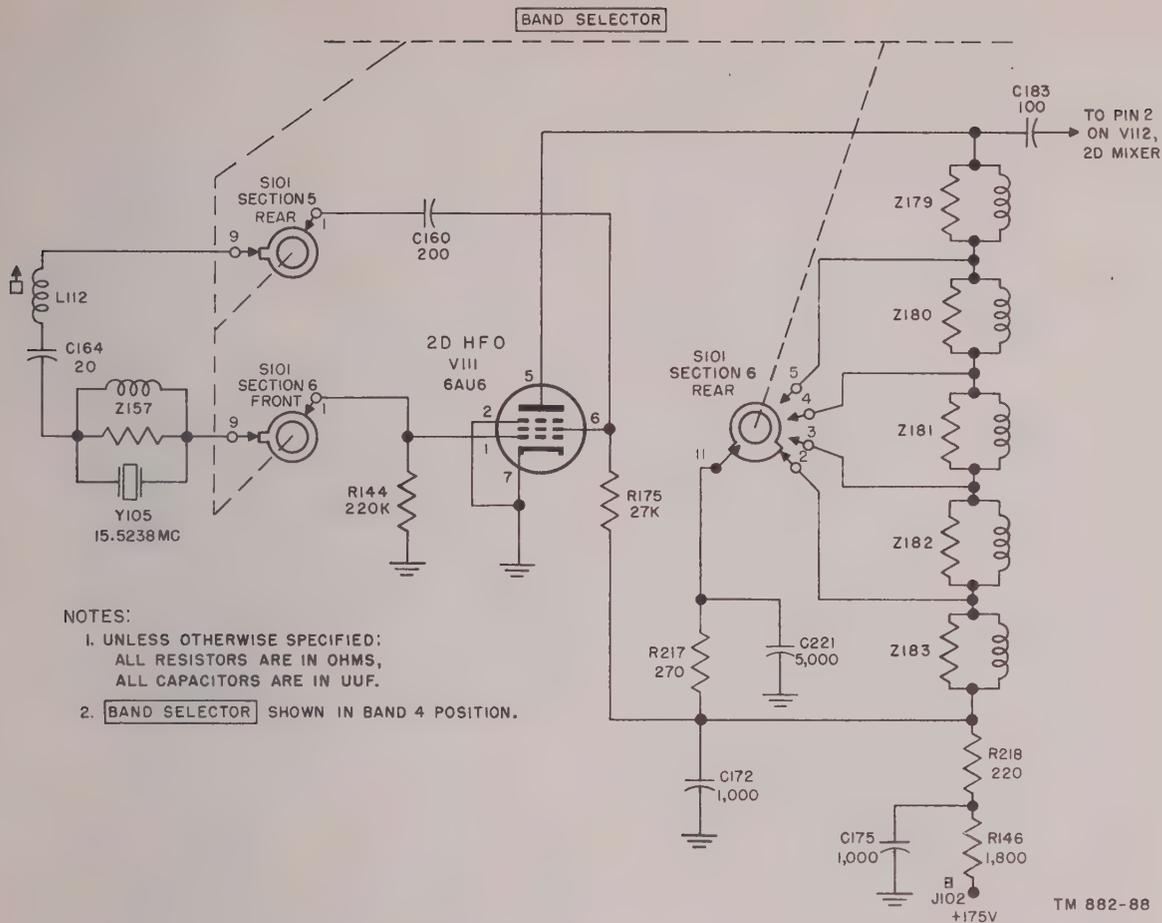

Figure 46. Second hfo.
(2) Bands 4, 5, 6, and 7 (fig. 46). On bands 4, 5, 6, and 7, the circuit differs considerably from that on bands 1, 2, and 3. Coupling to the second mixer is the same, and the functions of R175, R144, and the plate impedances (Z179 through Z183), remain unchanged, but here the crystal oscillates at its natural or series-resonant frequency. On band 4 the inductance of Z157 cancels the capacitance of the crystal and holder and damps any tendency of the crystal to operate in a spurious mode. The shunt resistance of Z157 further aids the damping action. The series resonant circuit consisting of C164 and L112 acts as a selective feedback path allowing feedback to occur only in the vicinity of the desired oscilla-